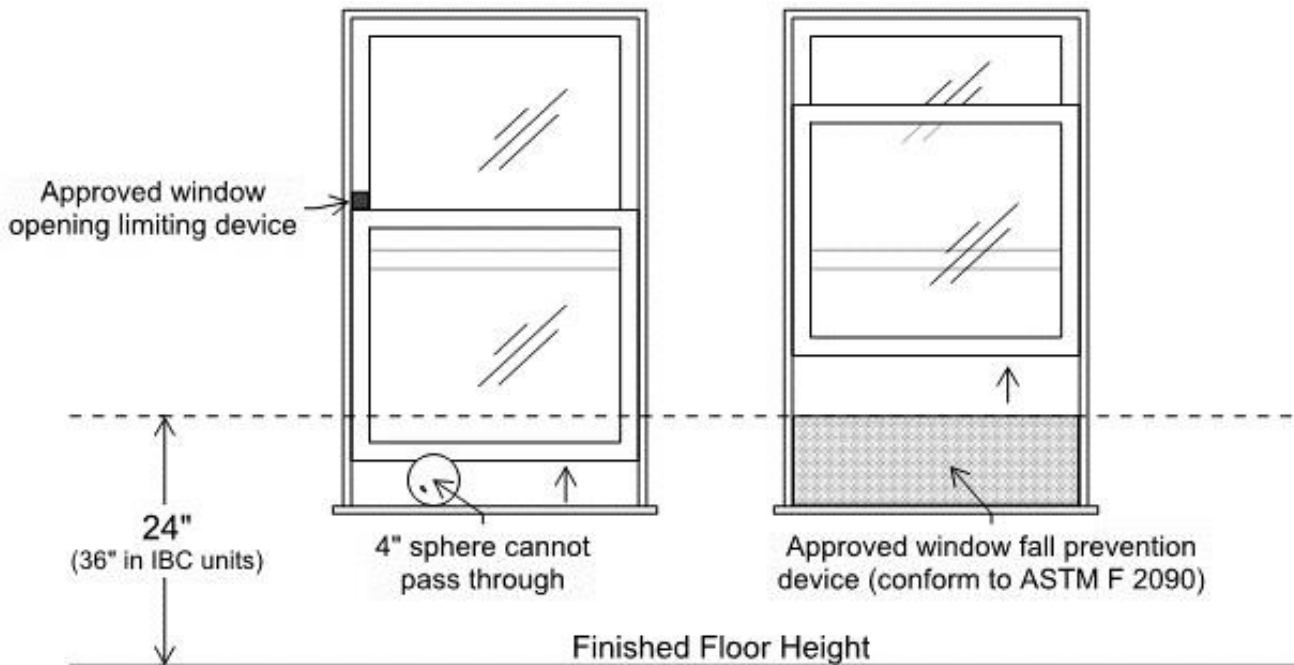

Figure 2: Window fall protection
1. Operable windows with openings that, when in their largest opened position, will not allow the passage of a 4-inch sphere (see Figure 2).
2. Operable windows that are provided with window fall prevention devices that comply with ASTM F 2090 (see Figure 2).
3. Operable windows that are provided with opening control devices that comply with ASTM F 2090 (see Figure 2). (Note: When installed on required emergency egress windows, these devices must not reduce the net clear opening to less than the minimum required size or dimensions; see Tip Sheet 10 for more information.)
4. In dwelling units regulated by the IBC where the sill height of an operable window above exterior finished grade is more than 75 feet, provide window fall prevention devices complying with ASTM F 2006 (see Figure 2).